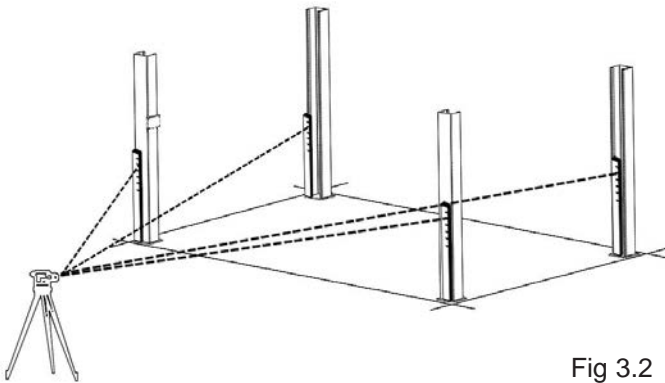

Fig 3.2
2. To estimate the shim requirements, place a target on floor at each Column position and record the readings. Find the highest of the four locations then find the difference between each of the remaining columns. This difference is the estimated amount of shim thickness that will be required at each Column. (See Fig. 3.2)